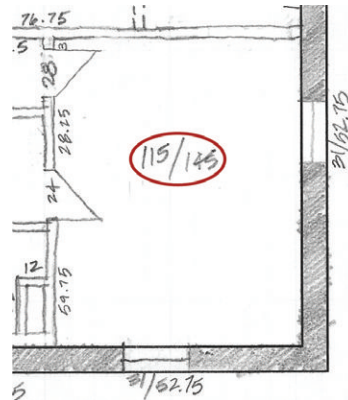

Figure 17.15 Overall room dimensions provide a reality check to insure that all measurements add up correctly.
- ☑ Add the overall room dimensions in the center of the room in a drawing (Figure 17.15). Use the same X-distance/Y-distance format every time.